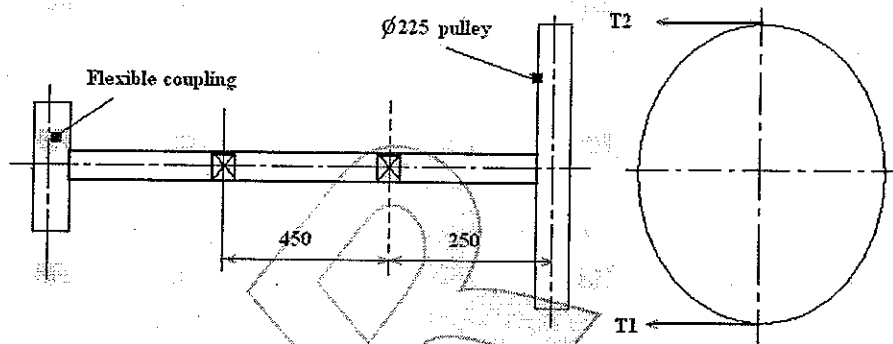

Figure: 3
6. A 225 pulley is keyed to a shaft and the center plane of the pulley overhangs the nearer bearing by 250mm, as shown below figure 3. An open belt arrangement is used. The pulley is driven by an 1800 rev/min motor through a flat belt with a 1 to 1 velocity ratio of the pulleys. The belt is 9.5x150mm and weighs 970 kg/m³. The coefficient of friction between the belt and pulleys is 0.3. The belt runs at its maximum capacity with maximum belt stress of 2 MPa. It is decided that the power capacity is to be doubled and if the several possibilities, this problem will concern itself with the effect of increasing the belt width. Assume that the belt width is to be increased. With all other conditions remaining the same, how much should belt width be increased to double the power capacity?